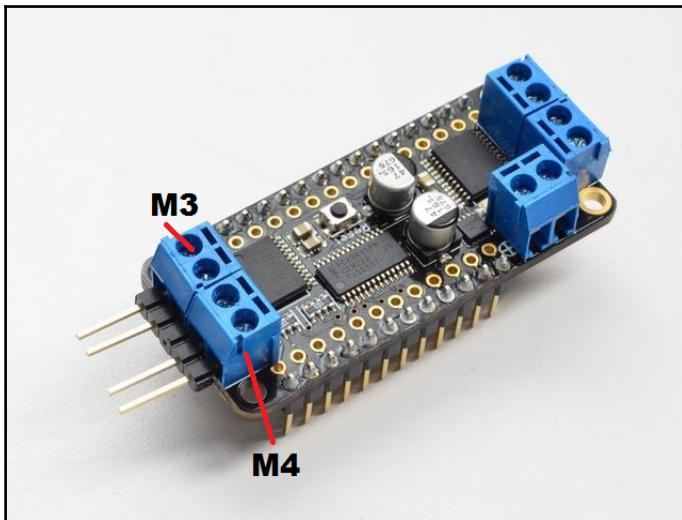

Figure 6.20: The Adafruit Stepper + DC Motor FeatherWing prepared with extra-long male headers. Image courtesy of Adafruit Industries—<https://www.adafruit.com>
4. Insert it into M3 and M4. Secure it by tighten the screws on terminal blocks. This will make it easy to connect and disconnect the DC motors (*Figure 6.20*):